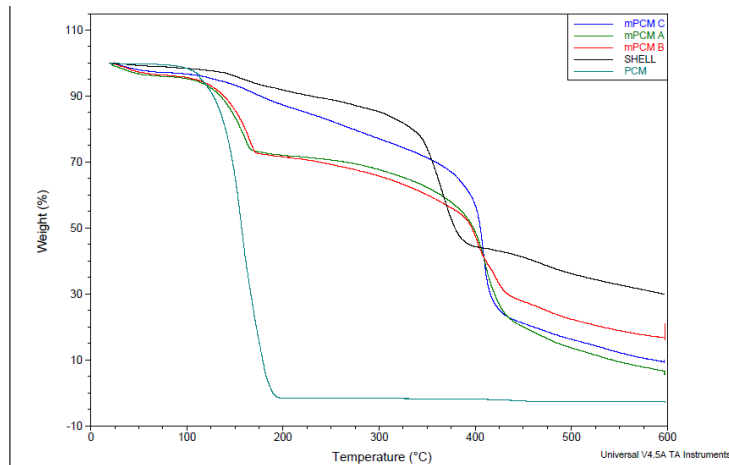

Figure 3. Comparison of three formulations of mPCM to the shell and "neat" PCM.
- Curves obtained of mPCM A, B, and C (green, red, and blue of Figure 3) demonstrate the determination of **increased ruggedness and stability** of the PCM once it has been protected by an outer coating.